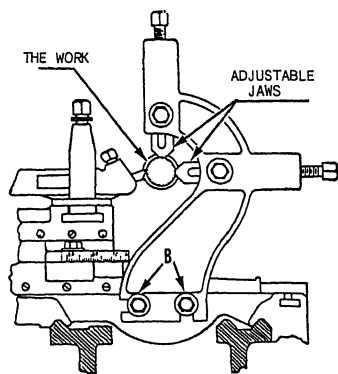

Figure 9-24.—Follower rest.
The follower rest backs up work of small diameter to keep it from springing under the stress of cutting. It is named for its function—it follows the cutting tool along the work. As shown in figure 9-24, it is attached directly to the saddle by bolts (B). The adjustable jaws bear directly on the finished diameter of the work opposite the cutting tool. As with the center rest,